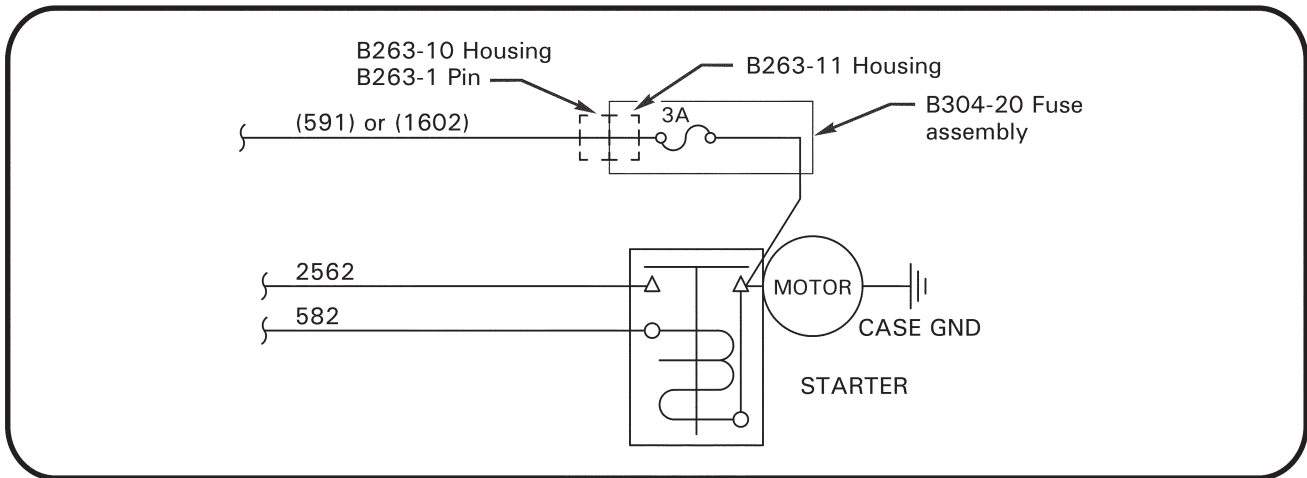

Figure 1 Schematic
3. Refer to Figure 1. Carefully remove ty-raps from airframe harness and trim 7 inches from ring terminal on wire (-591) or (-1602). Strip end and install B263-1 pin on wire (-591) or (-1602). Inspect crimp per MM § 23-84. Verify security of pin. Insert pin into B263-10 housing. Verify security of pin in housing.